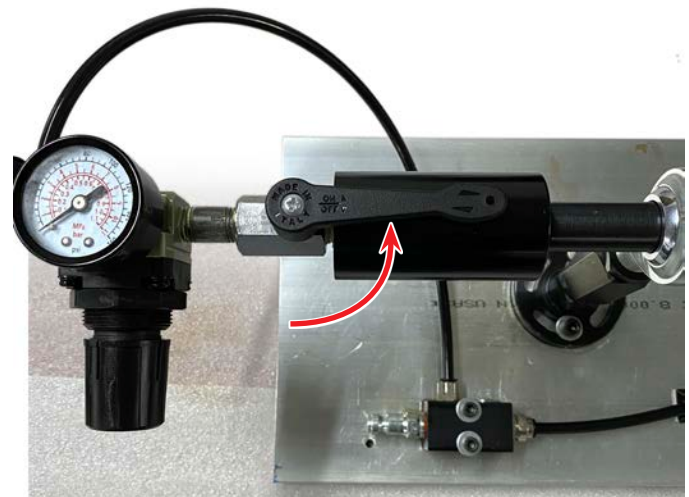

FIGURE 64
6. With the air pressure on and connected to the air manifold. Turn the ball valve lever to the open position (see Figure 64).